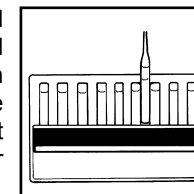

Figure 5
b. **High Range Comparator (fig. 5):** Hold the comparator in a nearly horizontal position while standing directly beneath a source of light. Place the ampoule between the color standards moving it from left to right along the comparator until the best color match is found.